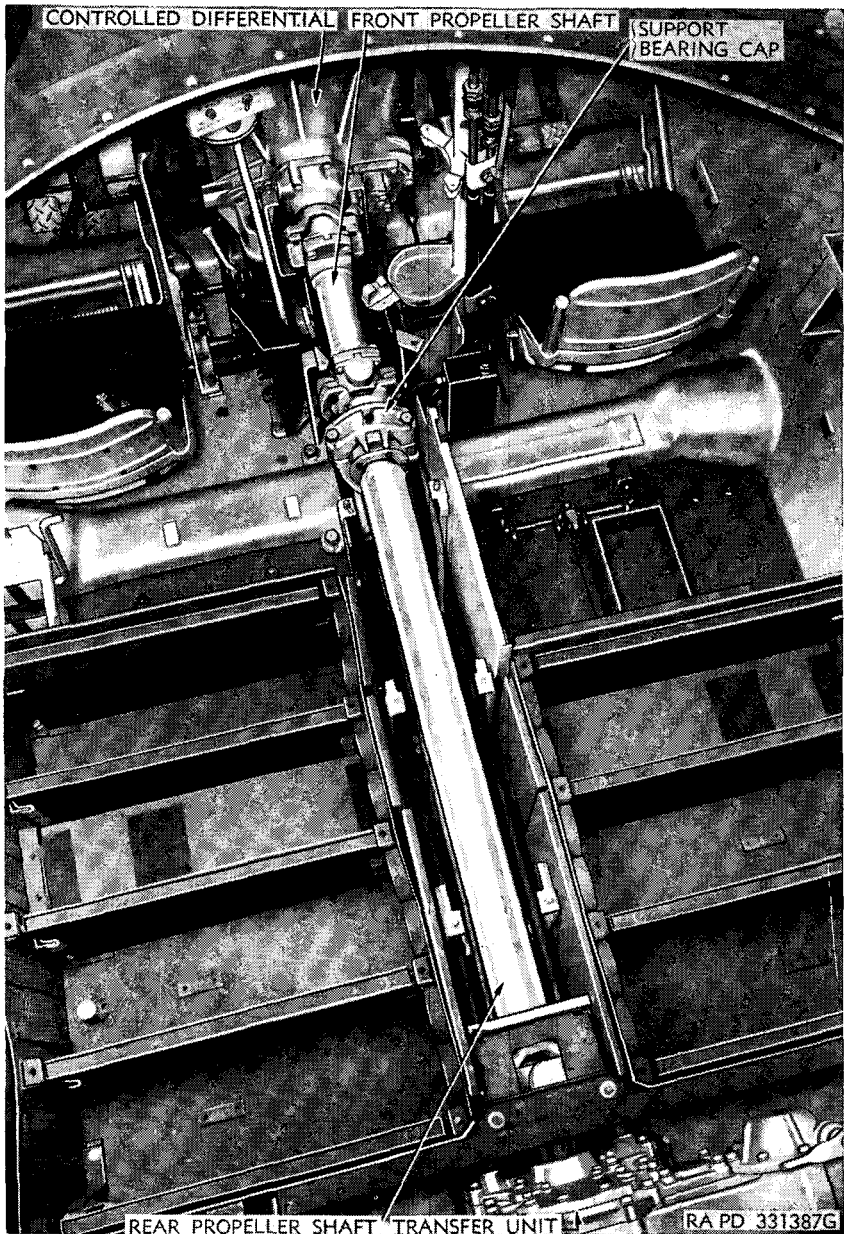

Figure 118. Main propeller shafts installed.
- (6) *Remove bearing cap.* Remove two bolts holding bearing cap to bearing support and remove cap (fig. 118).
- (7) *Remove propeller shafts.* Push the propeller shafts to the rear, telescoping them as much as possible. Pull assembly off transfer unit shaft, lift out of bearing support, and remove entire assembly from vehicle through the driver's door.
- (3) *Remove yoke.* Remove cotter pin and nut on front end of rear propeller shaft, holding yoke to propeller shaft, and remove yoke.
- (4) *Remove support bearing cap.* Remove two bolts holding support bearing cap in position and remove cap (fig. 118).
- (5) *Remove support bearing and carrier.* Lift the forward end of the rear propeller shaft until it is clear of the support bearing and with a piece of wood, lightly tap bearing and carrier off shaft.